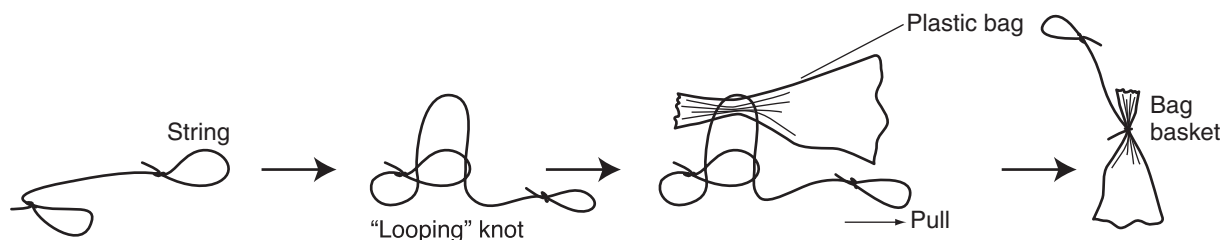

Figure 3.
- d. Tie the plastic bag closed using a looping knot (see Figure 3).